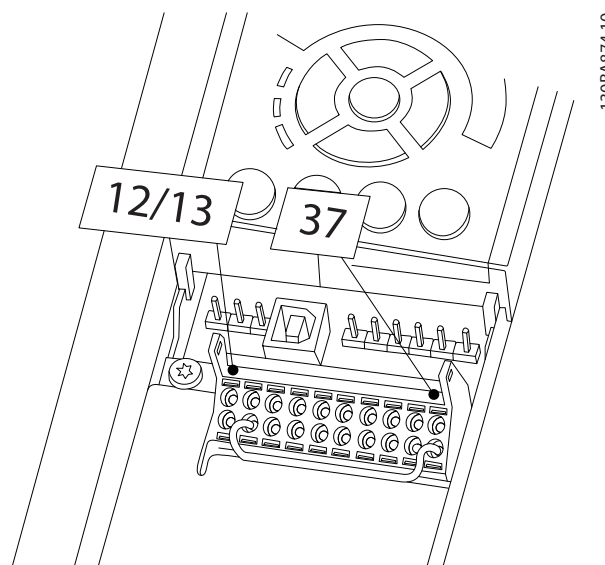

Figure 2.15 Jumper between Terminal 12/13 (24 V) and 37
1. Remove the jumper wire between control terminals 37 and 12 or 13. Cutting or breaking the jumper is not sufficient to avoid short-circuiting. (See jumper on Figure 2.15.)
If the status line at the bottom of the LCP reads **AUTO REMOTE COAST**, this indicates that the unit is ready to operate but is missing an input signal on terminal 27. See *Figure 2.15* for details.